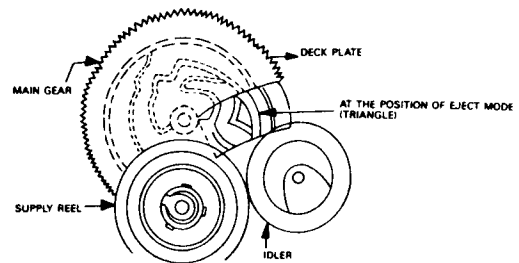

Fig. 25
2. Make sure the main gear of the loading motor is at the eject position as Fig. 25.